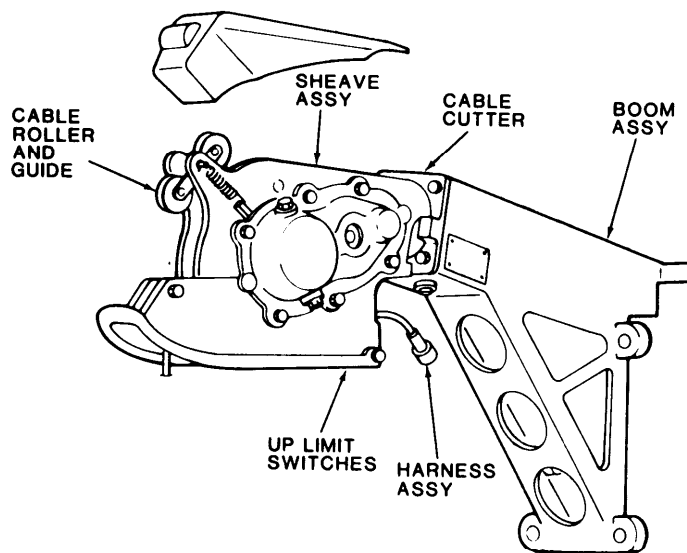

Figure 1-4. Boom Head Assembly
a. The boom head assembly (Figure 1-4) consists of a boom assembly, sheave assembly, dual up-limit switches, cable roller and guide, brake and clutch assemblies, cable cutter, and two electrical harness assemblies.